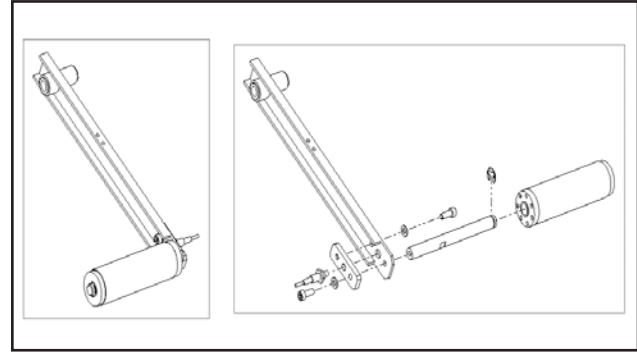

Figure 2-16
- 5) Remove the e-ring, roller, shaft, sensor and bracket to position on correct side as illustrated in **Figure 2-16**.